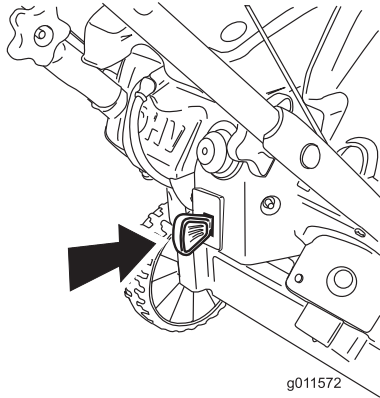

Figure 16
1. Push the ignition key fully inward to the On position (Figure 16).